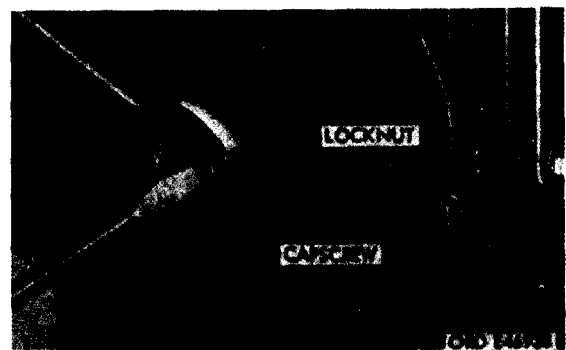

Figure 172. Adjusting pitman arm shaft
c. Tighten side cover adjusting screw (fig. 172) until a very slight drag is felt when turning the steering wheel with a light grip of the thumb and forefinger.
d. Hold the adjusting screw and tighten locknut (fig. 172). Recheck the drag of the wheel through full travel of the gear.
- (3) Loosen locknut (fig. 172) at right side of steering gear housing.
- (4) Turn the steering wheel from one extreme to the other, counting the number of revolutions between the two extremes. Turn steering wheel clockwise as far as it will go; then turn steering wheel counterclockwise one-half the number of revolutions counted between the extreme right and left positions. This places the steering wheel in the middle of its range of travel, which is the correct position of the steering wheel for straightahead steering.
- (5) Tighten adjusting screw (fig. 172) until a very slight drag is felt when turning the steering wheel with a light grip of the thumb and forefinger. Wheel should turn freely with just a perceptible drag.
- (6) Holding the adjusting screw to prevent further turning, tighten the locknut (fig. 172).
- (7) Adjust steering-gear jacket ((b) below).
- (8) Connect rear end of upper drag link to pitman arm (TM 9-2320-211-20).